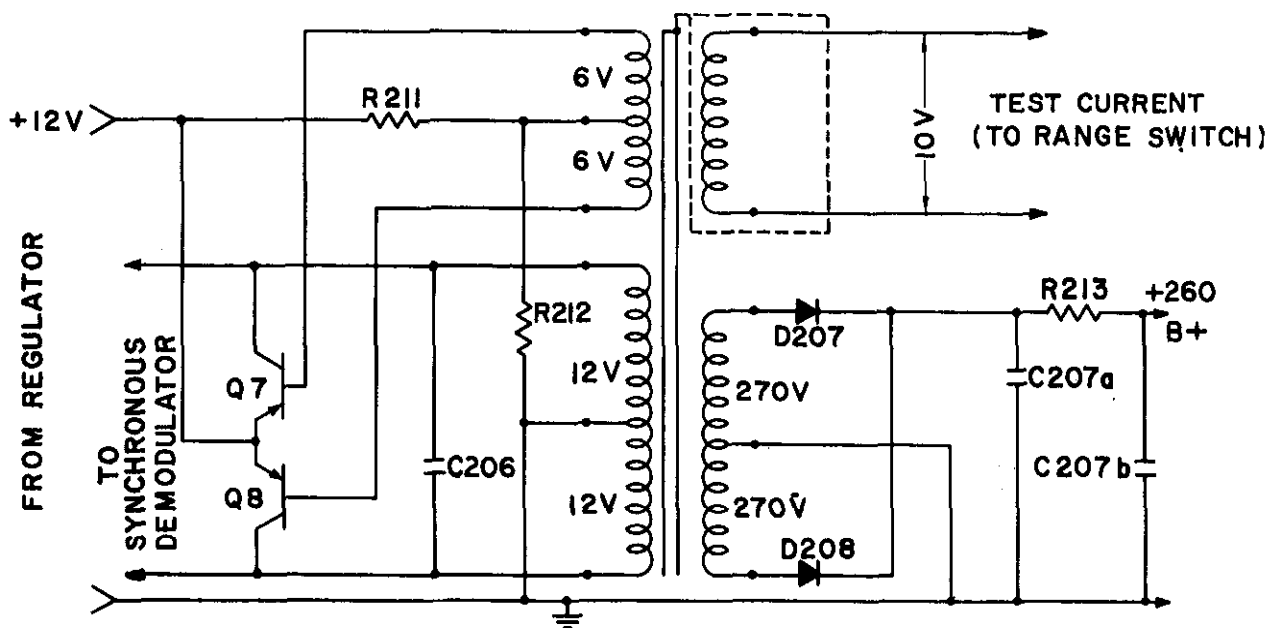

Figure 10. Test Current Generator Schematic Diagram
3. 40 CPS TRANSISTOR STATIC INVERTER CIRCUIT: (Fig. 10) A portion of the regulated 12 volt power is also used as the supply for a dc converter consisting of the following parts: Transformer T3, transistors Q7 and Q8, diodes D207 and D208, capacitors C206 and C207, and resistors R211, R212 and R213. The operation is as follows: Transistors Q7 and Q8 are connected across the 12 volt supply through their emitters and the center-tap of the 12 volt winding of T3. The bases receive positive feed-back from another winding on T3. The phasing is such that one transistor is driven hard on while the other is cut off. This cycle lasts until the core of T3 reaches saturation. At this point the transformer can no longer keep the on transistor fully conducting and its collector current decreases. This causes the polarity of the feed-back winding to change and the transistor which was cut off now conducts and the conducting transistor is cut off. The frequency of oscillation is controlled by the transformer constants. In this case the frequency was picked to be 40 cps. The ten volts rms secondary winding is used to provide the test signal and provides a 20 volt peak-to-peak square-wave which is used with series resistors R128 through R139 to provide the proper test current for each range. Diodes D101 and D102 limit the output voltage when the current leads are open circuited.
3-2. TEST CURRENT GENERATOR: (Fig. 10) As mentioned above, the test current is derived from the 10 volt winding of T-3. Since Q7 and Q8 bottom on each half cycle, the amplitude stability of the signal depends only on the 12 volt supply, and is therefore as stable as the well-regulated 12 volt supply. The circuit is not particularly critical as to frequency or wave-form. However, a nearly perfect square-wave is generated and the frequency is stable to better than a few percent.
2. 40 CPS TRANSISTOR INVERTER (Figure 10): With the range switch set at 3 milliohms, connect the current test leads to an oscilloscope. Observe a 40 cps square wave with a peak to peak amplitude of about 20 volts. If this is present, measure +260 volts dc across C207b. If no square wave is observed, or the B+ is absent, check the components in this portion of the circuit.